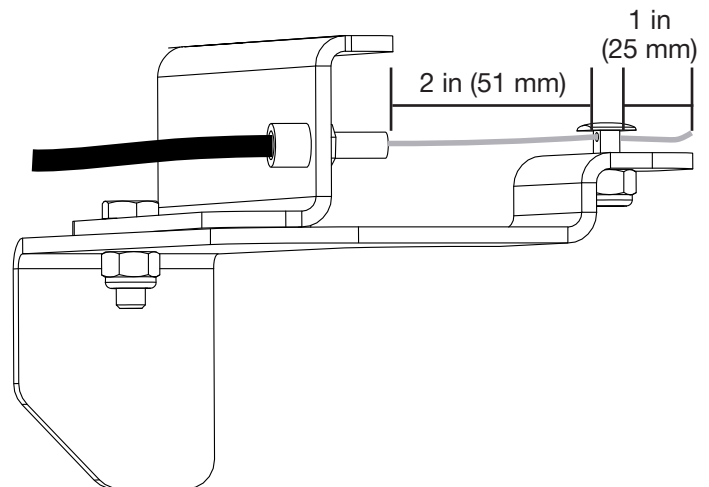

Figure 7. Feed Cable Through Cable Jacket and Clamp
14. Route the cable through the cable clamp with 1 in (25 mm) extending past the clamp (Figure 7).